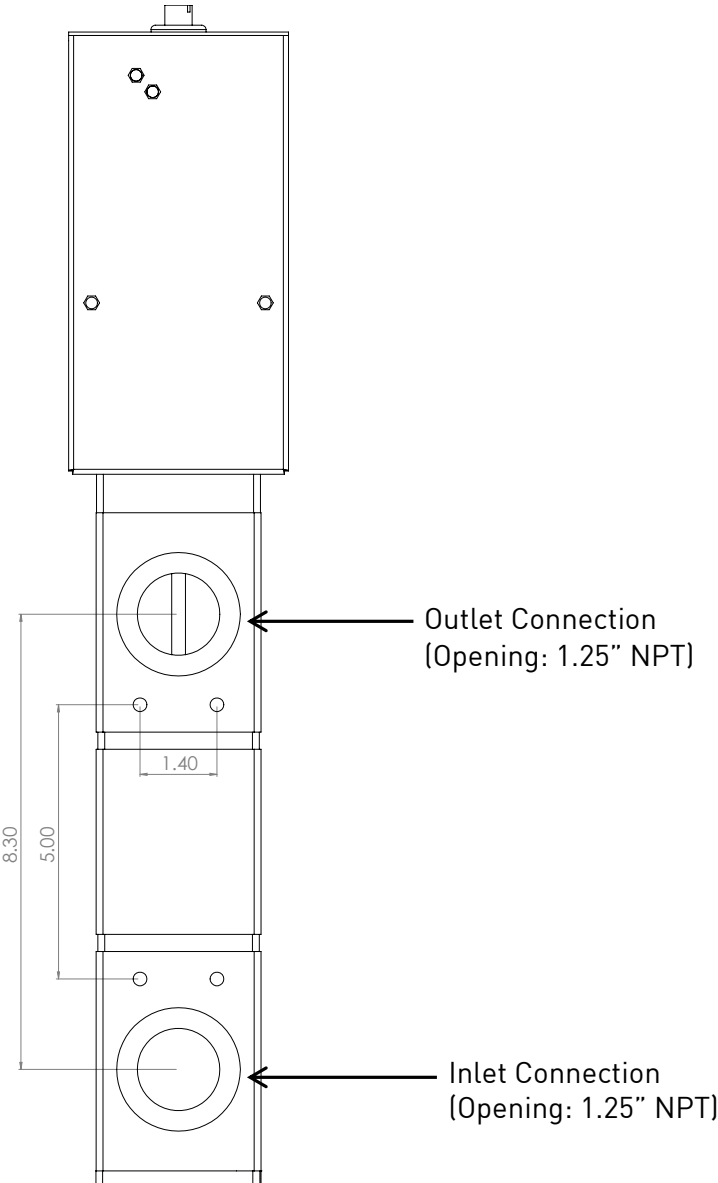

Figure 2 - Flow Outlet and Inlet Connections
Secure mounting is achieved by correctly and securely installing the required piping in the inlet and outlet connections of the eFlo unit. Note the distance between the centers of inlet and outlet openings is 8.3" (21.1cm). The outlet openings themselves measure 1.25" NPT. The locations of these connections are shown in Figure 2. Use of bushings or reducers at these connections is okay as long as the maximum flow rate can still be achieved. Contact SSi at (513) 772-0060 for questions about pipe sizing.